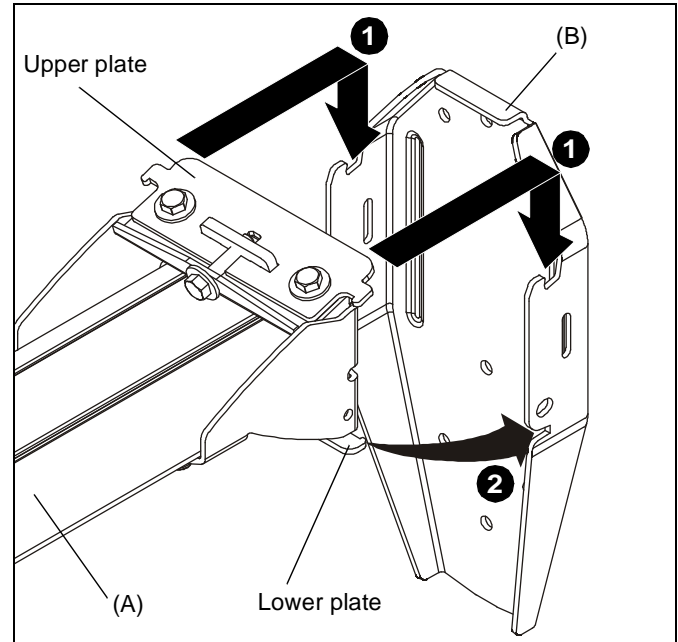

Figure 10
1. Lift wall mount assembly (A) up to wall bracket (B) and hook upper plate over upper notches on bracket. (See Figure 10)
2. Slide lower plate into lower notches on bracket. (See Figure 10)